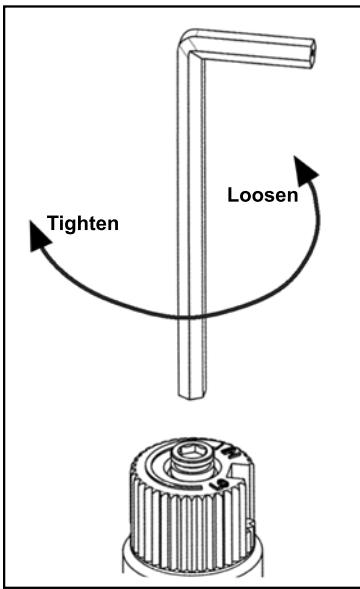

Figure 11: Removing valve screw.
b) Insert a $5/32''$ or 4 mm Allen wrench into the hexagonal key-way of the screw (see Figure 11), rotate it counter-clockwise until it is free and extract it.
e) Using the Allen wrench as shown in Figure 11, rotate the screw clockwise until a torque of 9 inch lbs. **WARNING!** Do not over tighten the screw. It is recommended that you grip the wrench by the short side.
The dimensions for installing a fireplace in the corner of a room are given below in Figure 11.